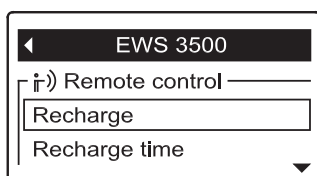

FIG. 114
2. Press the remote’s SELECT (O) button to display the device menu (See Figure 114).
3. If necessary, press the DOWN (▼) button to scroll through the menu options until **Recharge** is highlighted in a box (See Figure 114).
6. Press the SELECT (O) button. The display will go back to the conditioner/refiner menu (Figure 114).